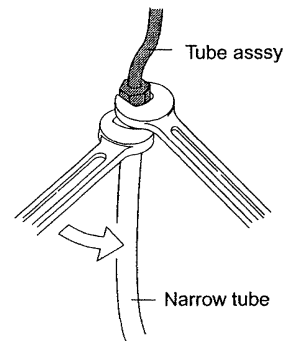

Fig. 10
- (7) Connect the narrow tube (3/8") between the units. When tightening the flare nut, use the double-wrench method. (Torque: 300 to 340 lbs.·in) (Fig. 10)
- (8) After completing the tubing work, check that the tube assy is not in direct contact with the 3/4" tube.